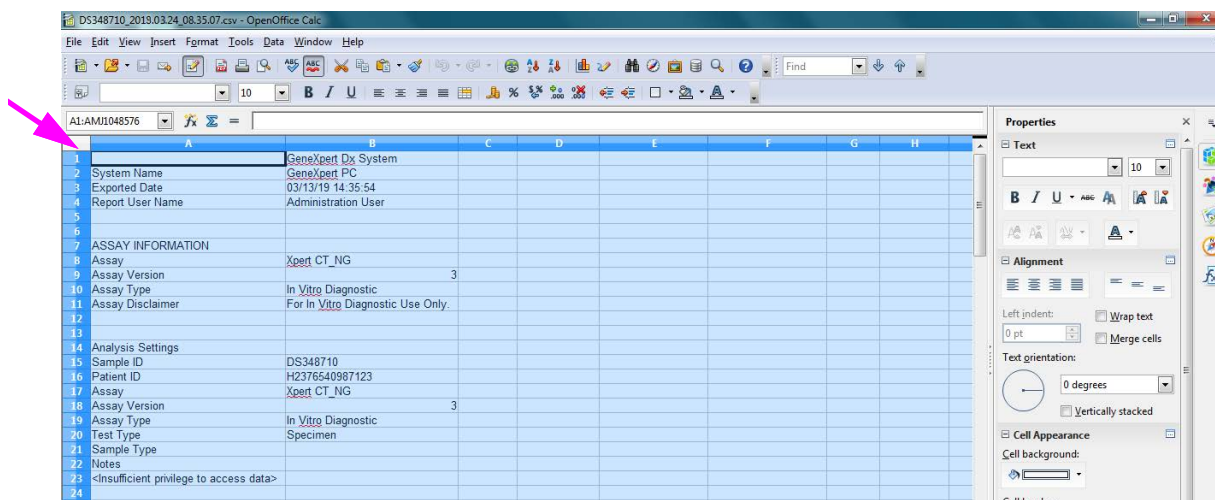

Figure 5-60. All Cells Selected
4. Once the file is open, click on the upper left corner of the worksheet to highlight all the cells, as shown in Figure 5-60.